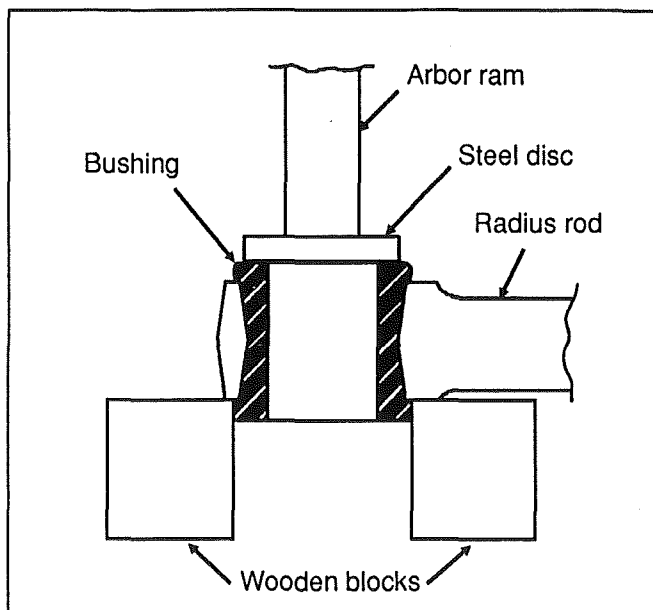

FIG. 20 - Removing radius rod bushings
1. Safely support the radius rod as shown in figure 20.
2. Place a flat steel disc, slightly smaller than the outside diameter of the bushing (see figure 20).